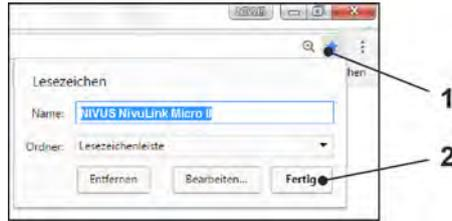

Fig. 31-4 Setting up favourite
9. To set up a favourite in the browser (for direct access), tap the star for "Favourites" (Fig. 31-4 Pos. 1) (Google Chrome is used as an example) and confirm with "Done" (Fig. 31-4 Pos. 2).